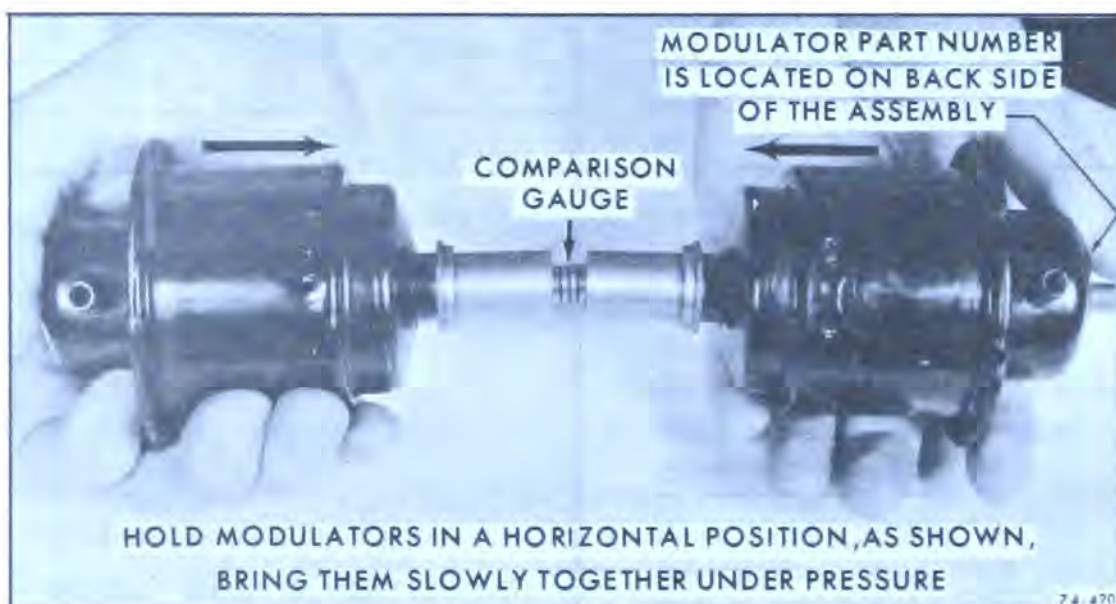
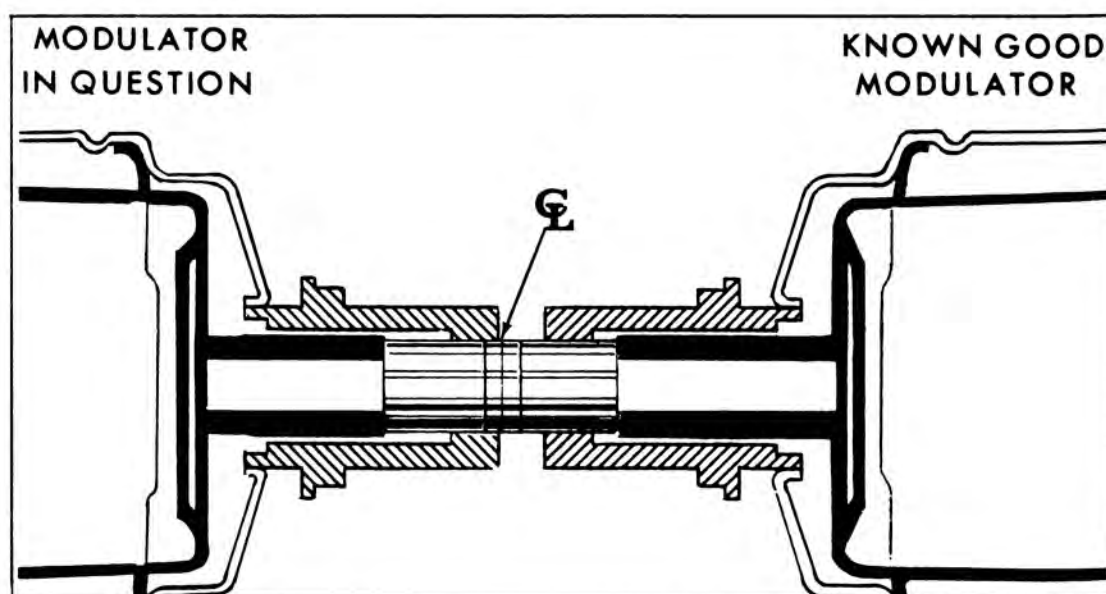

Figure 74-795—Holding Modulators in Horizontal Position
Figure 74-796—Modulator Bellows Bad
b. Holding the modulators in a horizontal position, see Figure 74-795, bring them slowly together under pressure. The modulator bellows in question, if defective, will reach the center line of the comparison gage before the known good modulator lines up with the outer gage line. See Figure 74-796.